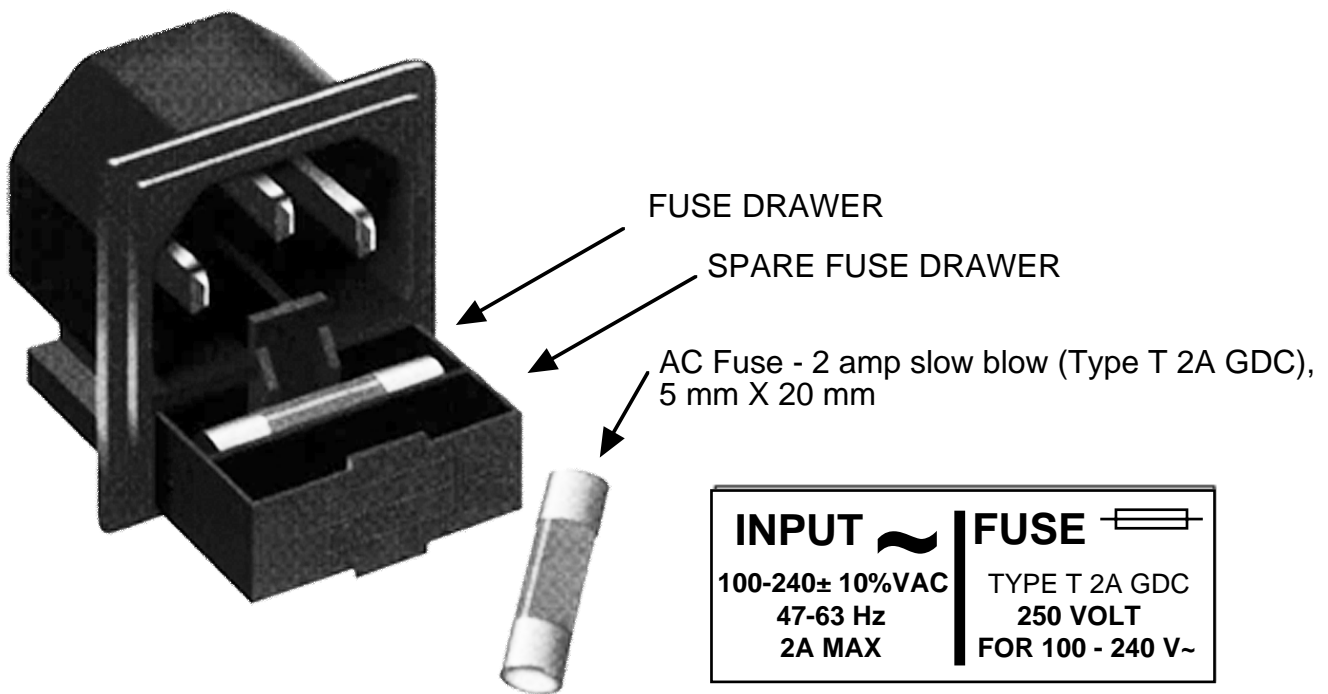

FIGURE 2.4 Fuse Location and Spare Fuse
- 8.) **AC Fuse** - The fuse is a 5 mm X 20 mm, 2 amp slow blow (Type T) and is inserted in the far slot in the drawer below the AC input as shown in Figure 2.4. There is a spare fuse in the near slot. If a fuse continues to open, the power supply is most likely defective.